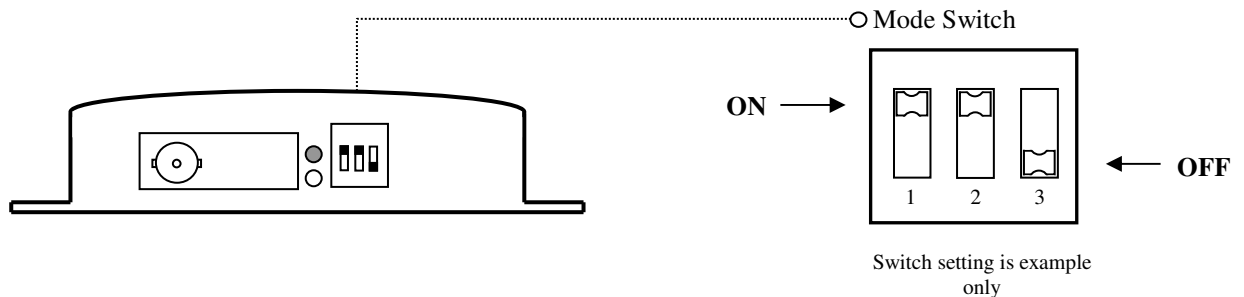

FIGURE 3: DATA SWITCH DIAGRAMS
- *2 10-bit video resolution and reverse data only when pin 8 is left Normally Open (N/O) and SW3 (T3) left OFF (UP) (see Table 4 and Figure 3)